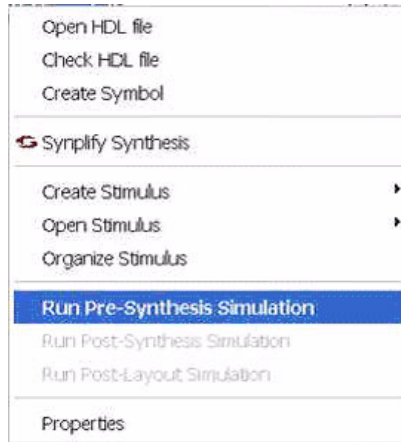

Figure 7-22. Run Pre-Synthesis Simulation
6. Click the **Simulation** icon in the Design Flow window, or right-click **Top** in the **Design Hierarchy** tab and select **Run Pre-Synthesis Simulation**, as shown in Figure 7-22.